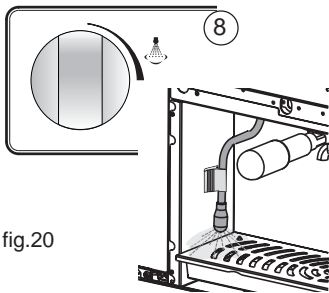

fig.20
- Open the steam knob 7 gradually and carefully and keep it open until the hot water drops contained inside the nozzle come out. (fig. 20)